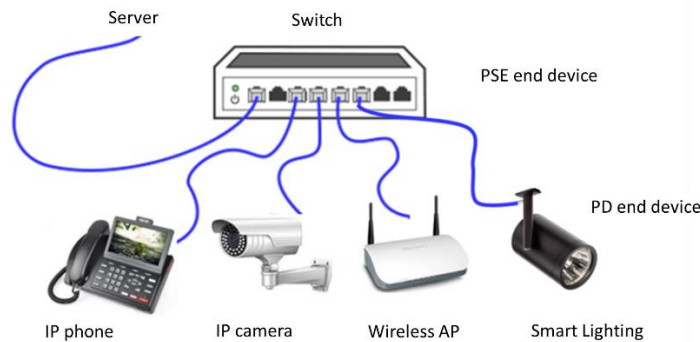

Figure 1: Common PoE Power Supply Equipment
Although there are various power supply types, this article will focus on Power over Ethernet \(PoE\) power supplies. In particular, PoE power supplies where the power sourcing equipment (PSE) supplies power to the powered device (PD) terminal equipment through the network cable. Figure 1 shows common PoE power supply equipment, including the PoE switch as well as power-receiving equipment (e.g. wireless AP, IP cameras, and IP phones).